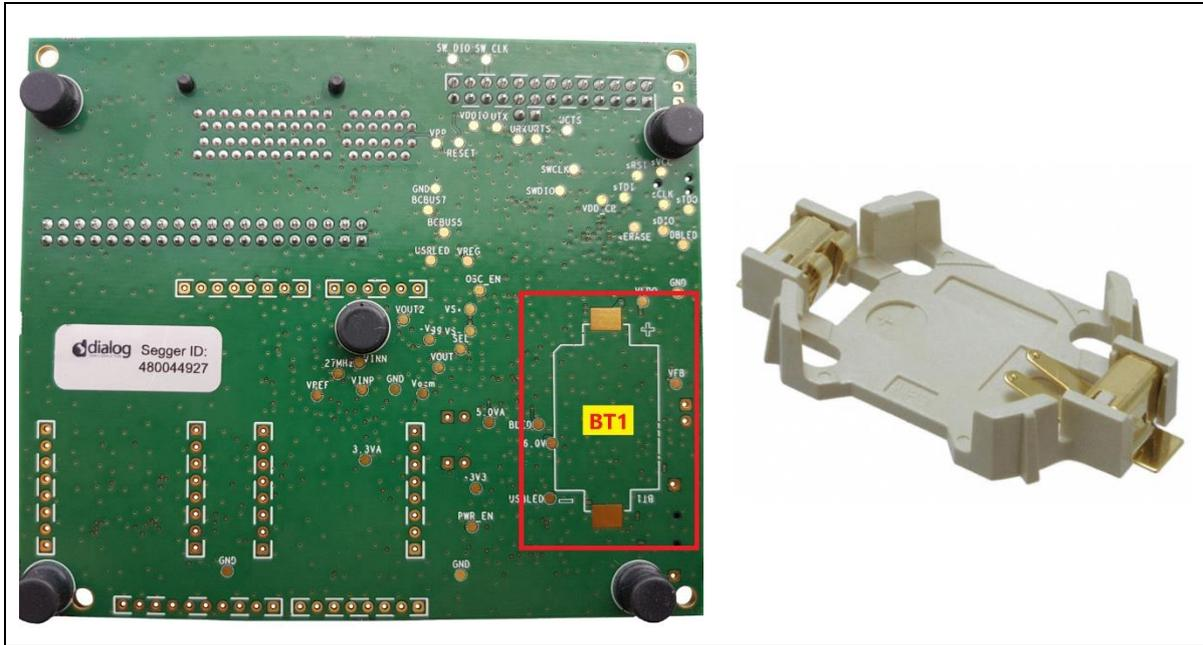

Figure 33: BT1 Position on PRO-MB (Left). Battery Holder, BU2032SM-BT-GTR, to Be Soldered (Right)
- Solder the battery socket on the solder side (BT1) by using BU2032SM-BT-GTR (see Figure 33)